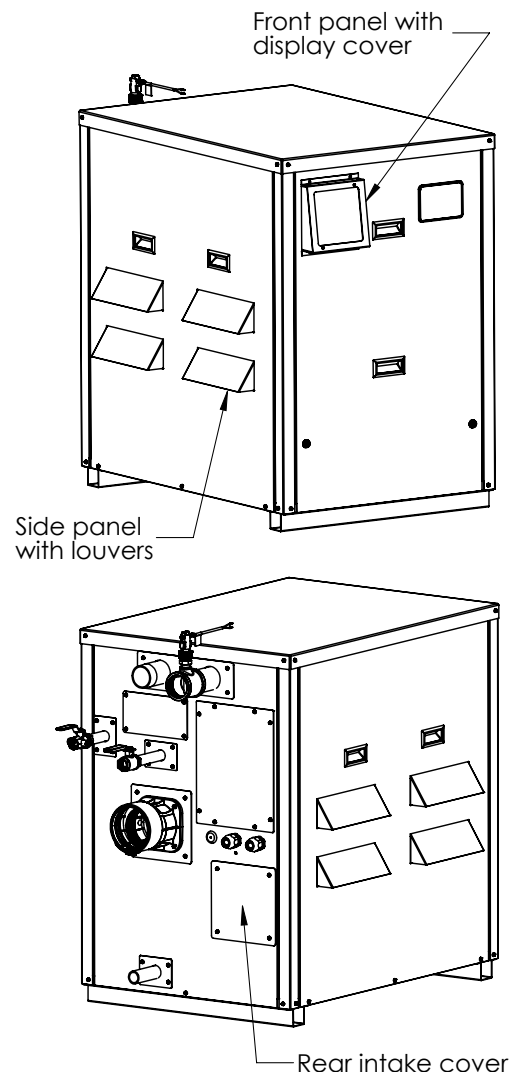

Figure 3: CTD 400-1000L with Outdoor Trim
4. Verify model size and whether the appliance is supplied with indoor or outdoor trim. See Figure 3.